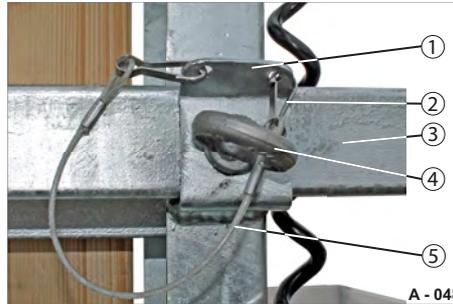

Fig. 70 Eye bolt secured
- ▶ Release the karabiner (Fig. 70/2) from the holder (Fig. 70/1).